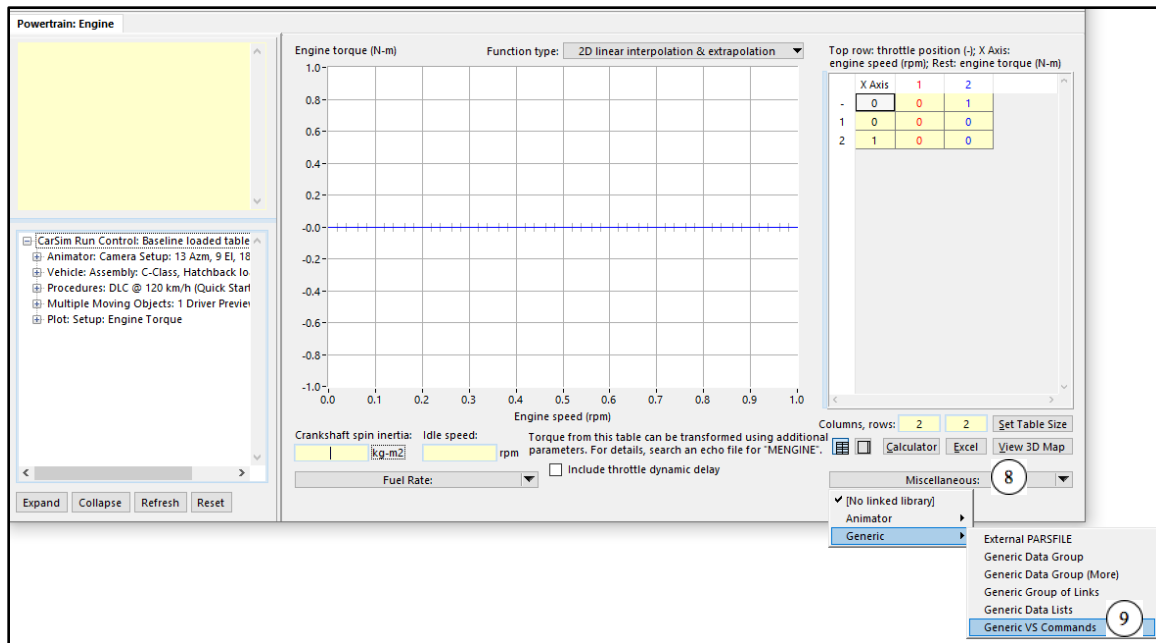

Figure 6: VS Commands Dataset selection on the Powertrain: Engine screen
The Powertrain: Engine library has a *Miscellaneous* link (8) in the lower right-hand corner. Use that link to select the (9) Generic VS Commands library. A Generic VS Commands dataset will be used to load the newly created VS Table data (Figure 6). Link to a new Generic VS Commands dataset.